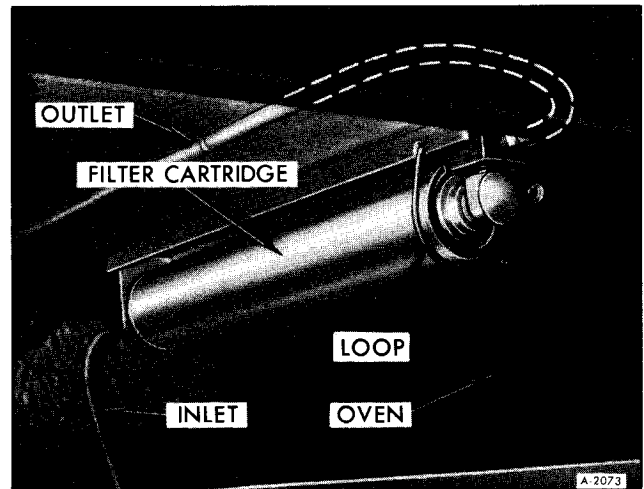

Figure 17–Water Purifier Cartridge
2. Slide cartridge retaining bail (See figure 17).
3. Pull cartridge down approximately one (1) inch then outward to remove.
1. Insert cartridge into bracket and swing bail over the end (figure 17).